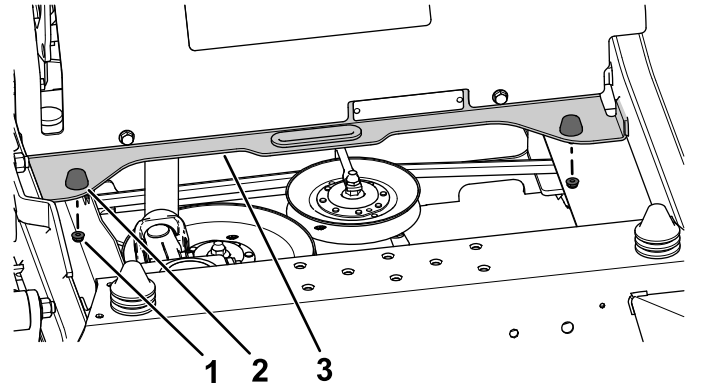

Figure 11
- Remove the 2 locknuts (1/4 inch) from the rubber bumpers on the cross brace (Figure 11). Retain the 2 locknuts (1/4 inch).